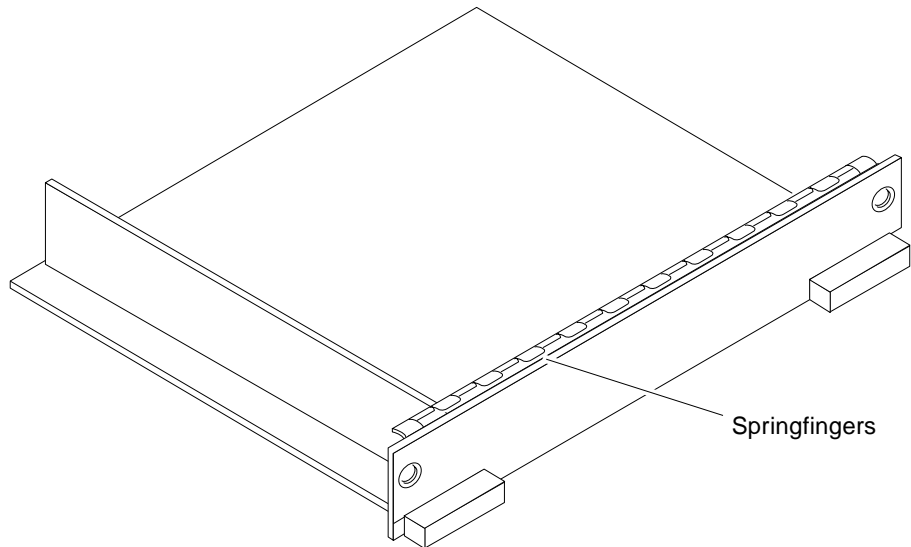

FIGURE 5-1 Filler Panel (Enterprise 5500/4500 Only)
- Empty slots in Enterprise 5500 and 4500 systems must have a filler panel installed (FIGURE 5-1).